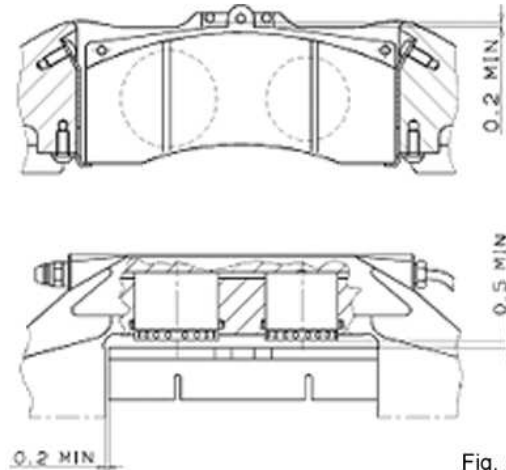

Fig. 5
- f. Assembly and disassembly of the pads must occur without any force; the pads radial and lateral clearance inside the caliper must be 0,2 mm MIN; with the pistons in backward position, the clearance between them and the back plate must be 0,5 mm MIN (see Fig. 5).